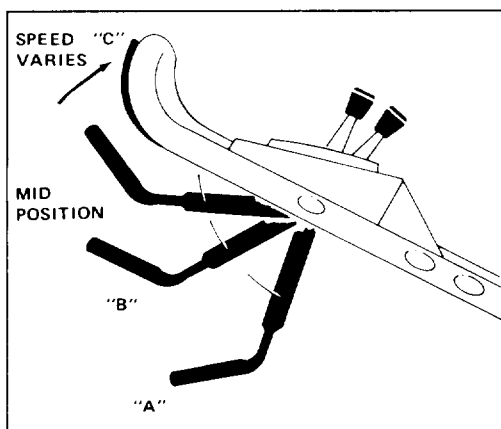

Figure 11
5. **BLADE AND TRACTION OPERATION** (Fig. 11)—Move control bar down to "A" and raise to engage blade "B". Move ground speed control to desired setting and squeeze control bar against handle "C" to drive. Ground speed varies, depending on space between control bar and handle. To disengage traction drive, but keep blade engaged, gradually release control bar to mid position. To self-propel with blade disengaged, simply squeeze control bar against handle, eliminating downward movement necessary for blade engagement.